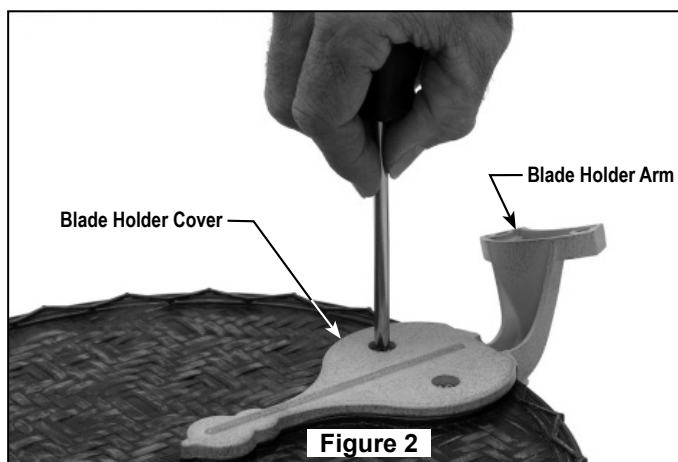

Figure 2
Cord and wires are to be fed through end of shaft that has holes located 2 3/4" from end of shaft. Figure 2
3. Route the cord attached to (Base Assembly) wire through the bottom part of the Support Shaft. (Figure 2) Pull cord through Shaft until wires are completely through the Shaft.
5. With a Phillips head screwdriver provided, thread both screws into the posts but do not fully tighten.. (Figure 2)
7. Tighten both screws to secure the blade. (Figure 2)